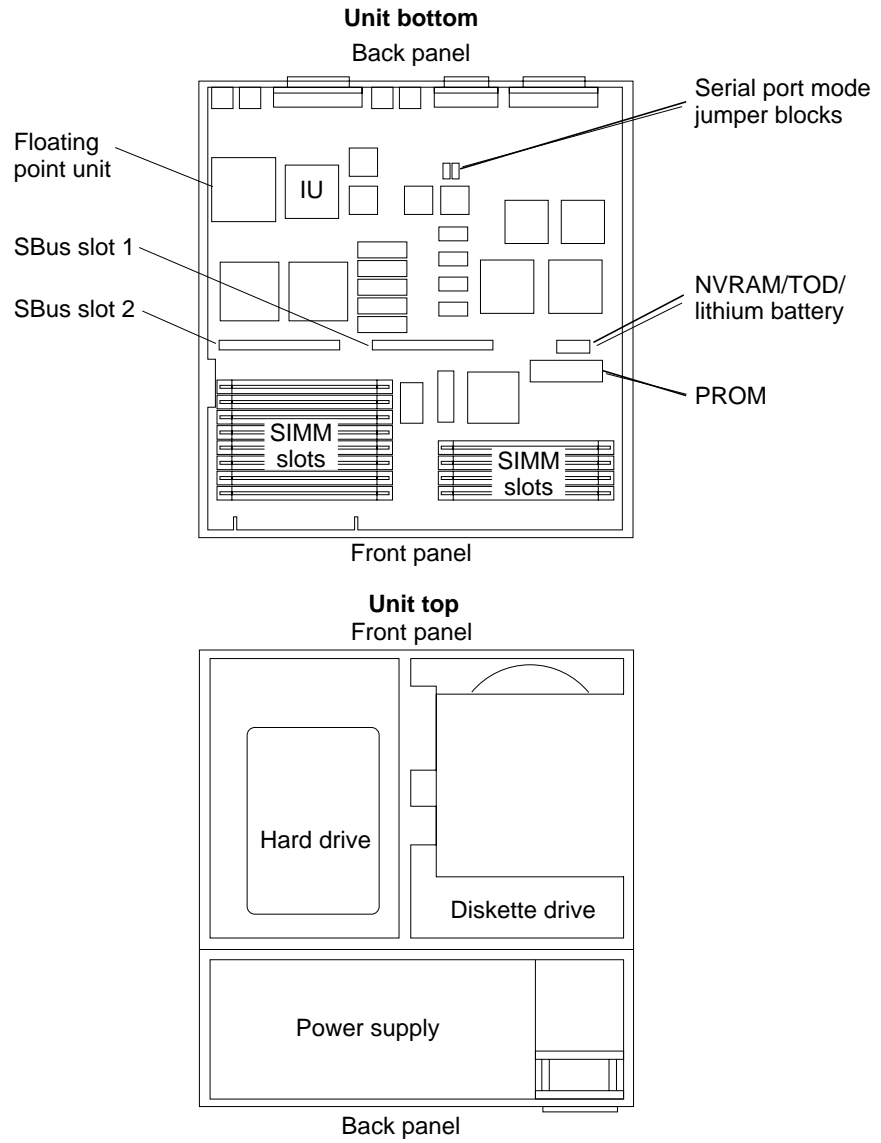

Figure 4-1 Top View of the Unit
Before you attempt to replace or install a new board or module, make sure that you have the right unit. Figure 4-1 shows a top view of the open system unit. Part identification is printed on the part being replaced. Part Numbers are presented in Appendix B.
3. Locate the SIMM slots on the main logic board (see Figure 4-1).